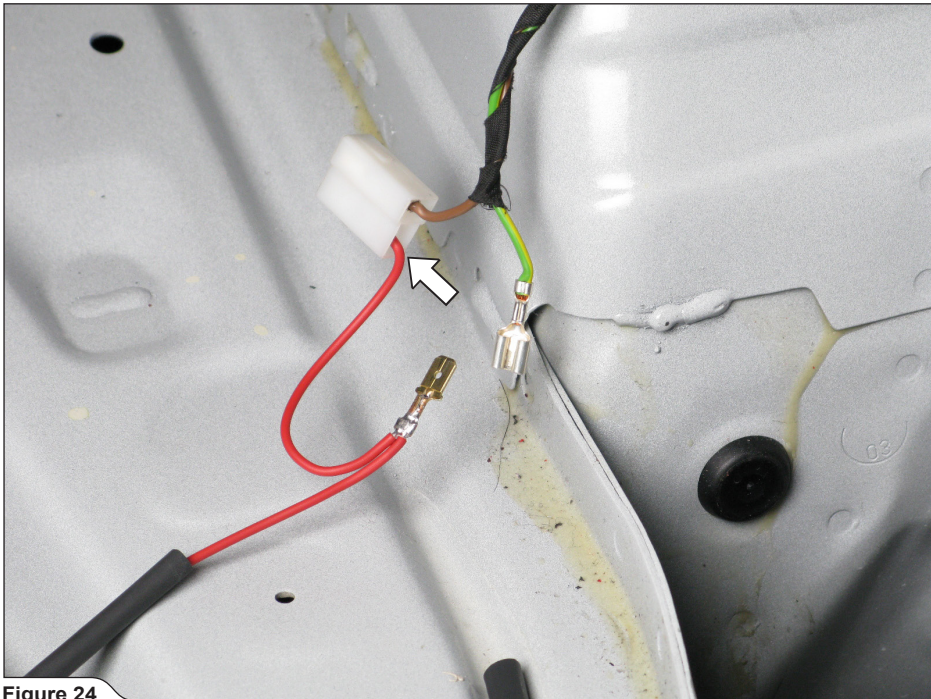

Figure 24
15. **For plug-in socket powered Wireless only:** correctly orient the red wire's pin and attach the pin into the original plug-in socket connector (**Figure 24**).
16. Connect the original **green/yellow** wire with **red** transmitter's harness wire, and protect the connection with heat shrinkable insulation (**Figure 24, 25**).